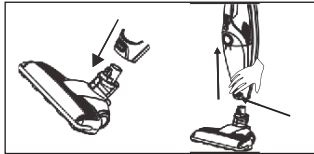

Fig. 4
**Do not use the upright vacuum cleaner with the shaft (22) out of the brush (8).**
- Install the complete brush (8) in the housing (7). To remove the brush, press the lock (6) and slide it out - Fig. 4.